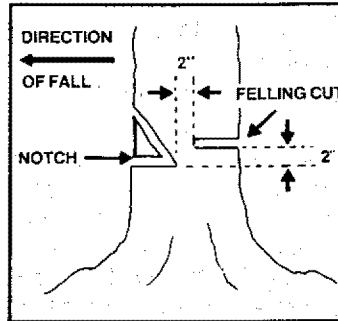

Figure 26
- a. Make the notch cut. Figure 26.